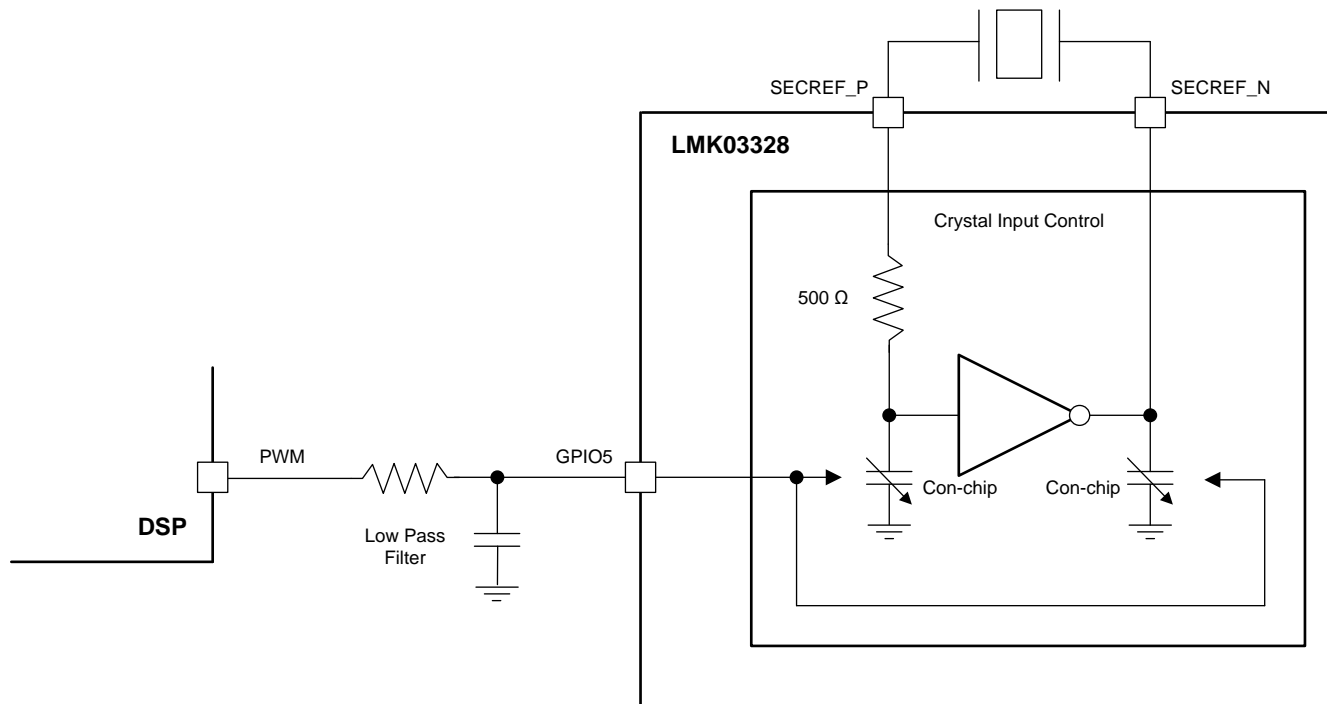

Figure 58. Crystal Load Capacitance Compensation Using PWM Signal
- The second method is using a low-pass filtered PWM signal to drive the 8-level GPIO5 pin as shown in Figure 58. The PWM signal could be generated from the frequency difference between a highly stable TCXO and the output of LMK03328 that is provided as a feedback into the GPIO5 pin and used to adjust the on-chip load capacitance on the crystal input in order to reduce frequency errors from the crystal. This is a quick alternative that produces a frequency error at the LMK03328's output and could be acceptable to any application when compared to a full-characterization with a chosen crystal to understand the exact load pulling required to minimize frequency error at the LMK03328's output. More details on frequency margining are provided in Application and Implementation.